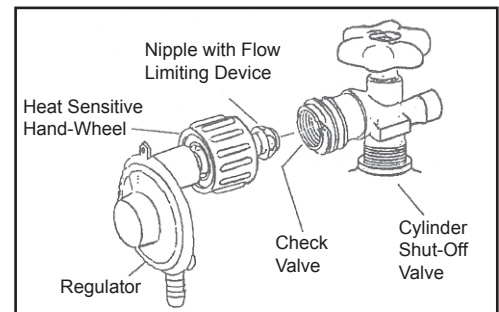

Fig. 3
3. Center the nipple in the cylinder valve and hold in place. Using other hand, turn the hand wheel clockwise until there is a positive stop. Do not use tools. Hand tighten only. When making the connection, hold the regulator in a straight line with the cylinder valve, so as not to cross thread the connection. (Fig. 3)